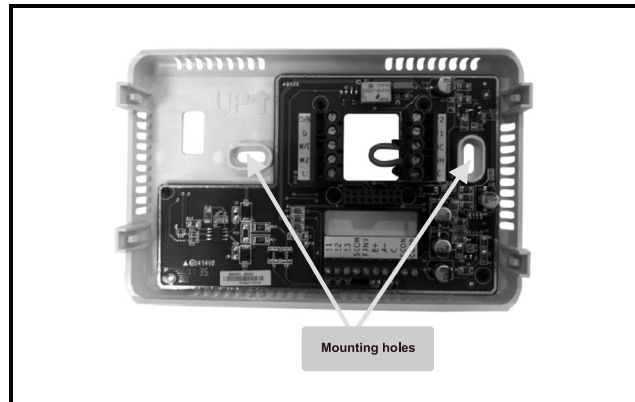

Figure 3-3 - Thermostat Mounting Hole Locations
4. **Mark mounting hole locations.** Place the thermostat Mounting Plate over the hole in the wall and mark the mounting hole locations (*Figure 3-3*) using the Mounting Plate as a template.